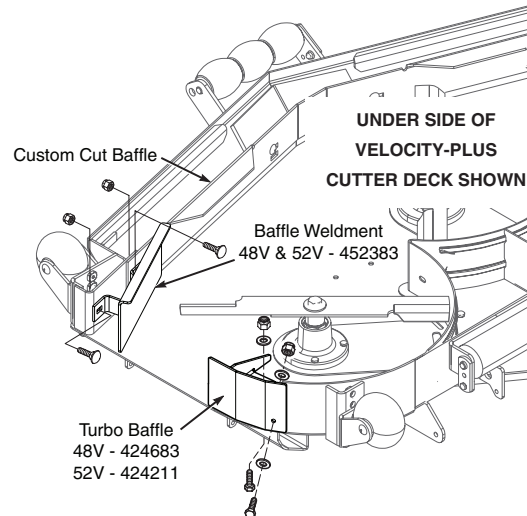

Figure 2-2. Grass Catcher Baffles
5. Remove the "Turbo" baffle from the cutter deck. Using the original hardware, install the new "Turbo" baffle. Install the baffle weldment. See Figure 2-2.